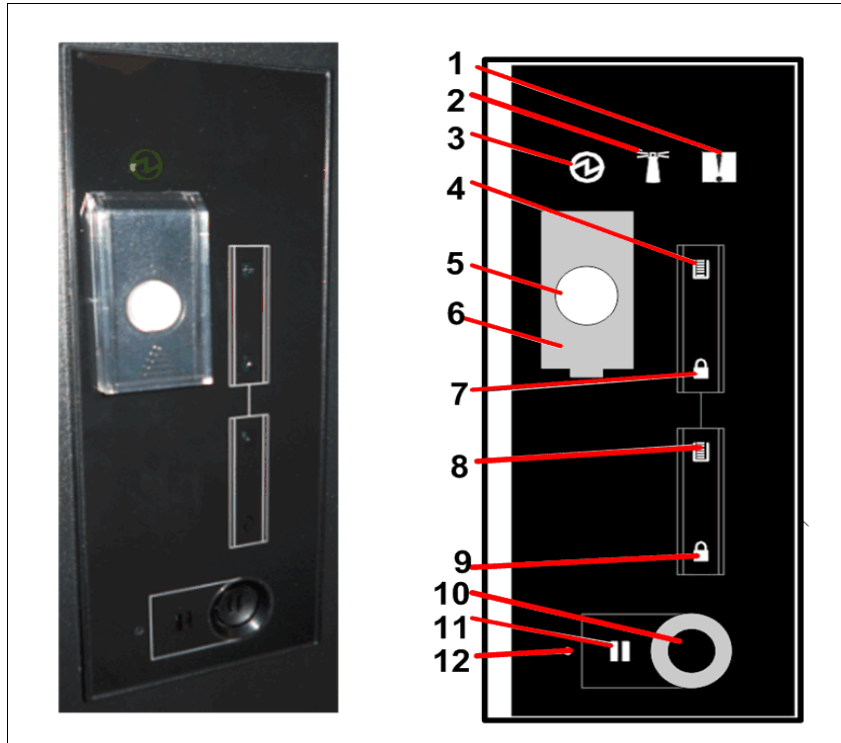

Figure 1-50 Display panel
The display panel on the base frame of the TS4500 Tape Library houses the library power and pause buttons. It displays library and I/O status indicators, as shown in Figure 1-50 on page 56.
You can pause the library by pressing the pause button on the display panel (number 10 in Figure 1-50 on page 56) on the base frame of your TS4500 Tape Library. This pause button causes the library to move the cartridge accessor to the base frame and pause operations for 30 seconds or while a frame door is open. The pause light next to the pause button stops flashing, and it illuminates solid to indicate that the library is paused (number 11 in Figure 1-50 on page 56).
1. From the display panel on the base frame of the library, slide the plastic cover that protects the power button up to make available the button (number 6 in Figure 1-50 on page 56).
2. Press the power button (number 5 in Figure 1-50 on page 56) and wait to see that the green power indicator turns on and stays on.
2. Pause the library by pressing the pause button on the display panel (number 10 in Figure 1-50 on page 56) on the base frame of your TS4500 Tape Library. This pause button causes the library to move the cartridge accessor to the base frame and pause operations for 30 seconds or while a frame door is open. The pause light next to the pause button stops flashing, and it illuminates solid to indicate that the library is paused (number 11 in Figure 1-50 on page 56).
3. From the display panel on the base frame of the library, slide the plastic cover that protects the power button up to make available the button (number 6 in Figure 1-50 on page 56).
4. Press the power button (number 5 in Figure 1-50 on page 56) and wait until the green power indicator light turns off.
Press the Access Recovery button (see Figure 1-50 on page 56) then, log in to the GUI by using admin for the username and password.